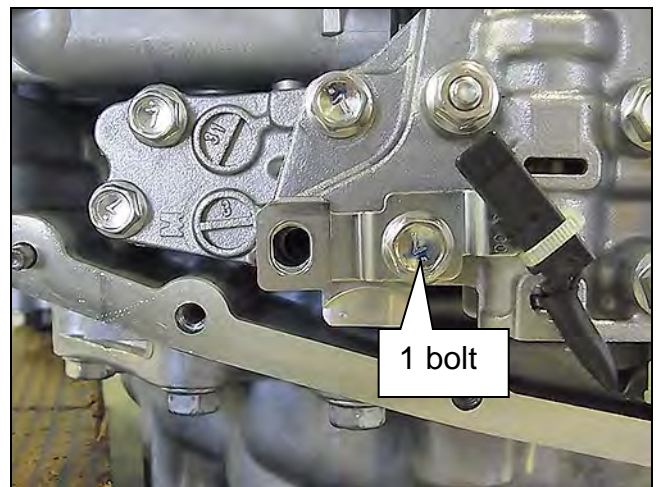

Figure 26
6. Install the CVT fluid temperature sensor bracket to the valve body with one (1) bolt (Figure 26).